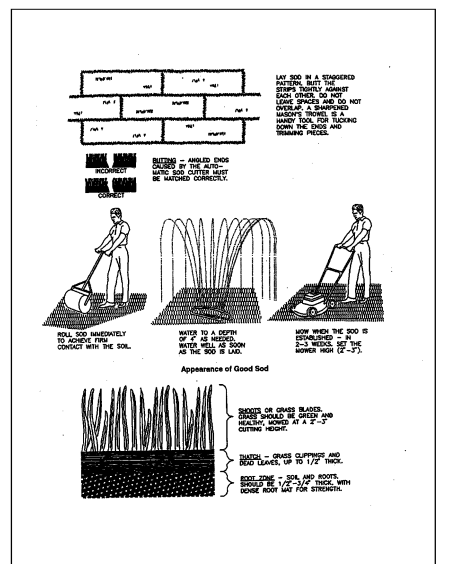

Figure 7.6a. Sodding
- Prior to soil preparation, areas to be sodded shall be brought to final grade in accordance with the approved plan. These operations should leave as much topsoil as possible or replace the topsoil to a depth of 4 inches (10 cm) (see Figure 7.6a).